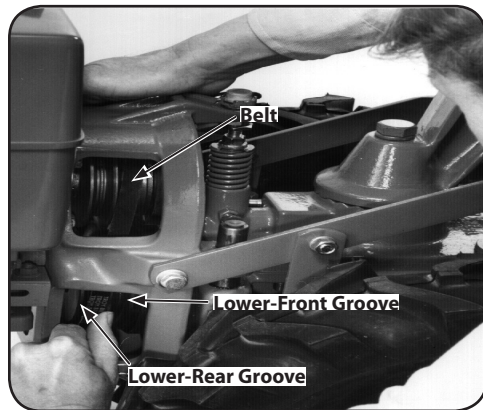

Figure 4-8
3. Kneel on the left side of tiller. To create belt slack, reach over to the right side of the pulleys and push in at the center of the belt with a finger. At the same time, use your left hand to work the belt part-way onto the lower-front transmission pulley groove. See Figure 4-8.